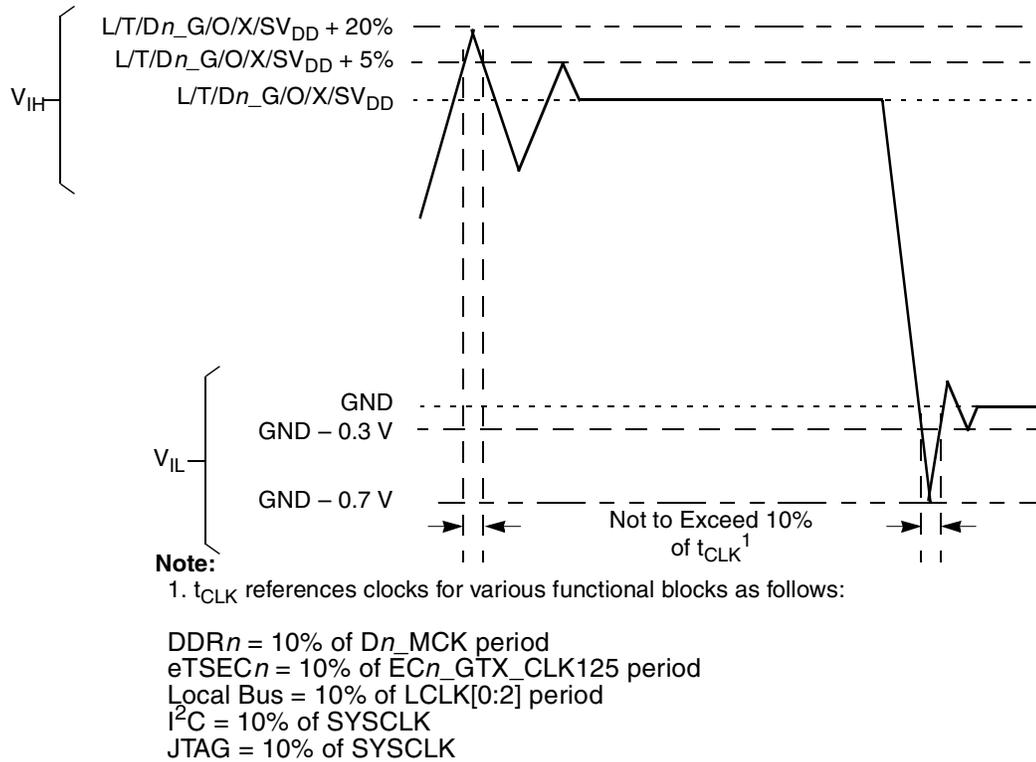

Figure 2. Overshoot/Undershoot Voltage for Dn\_M/O/L/TV\_IN
- During run time (M,L,T,O) $V_{IN}$  and  $Dn\_MV_{REF}$  may overshoot/undershoot to a voltage and for a maximum duration as shown in Figure 2.
- Caution:**  $Dn\_MV_{IN}$  must meet the overshoot/undershoot requirements for  $Dn\_GV_{DD}$  as shown in Figure 2.
- Caution:**  $L/TV_{IN}$  must meet the overshoot/undershoot requirements for  $L/TV_{DD}$  as shown in Figure 2 during regular run time.
- Caution:**  $OV_{IN}$  must meet the overshoot/undershoot requirements for  $OV_{DD}$  as shown in Figure 2 during regular run time.
- Timing limitations for  $M,L,T,O)V_{IN}$  and  $Dn\_MV_{REF}$  during regular run time is provided in Figure 2
Figure 2 shows the overshoot and undershoot voltages at the interfaces of the MPC8641.